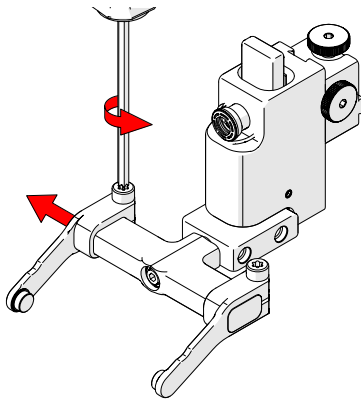

Fig. 130 - Remove probe holder arm
3. Loosen the arm clamp screw with the T25 TORX driver and remove a probe holder arm (Fig. 130).